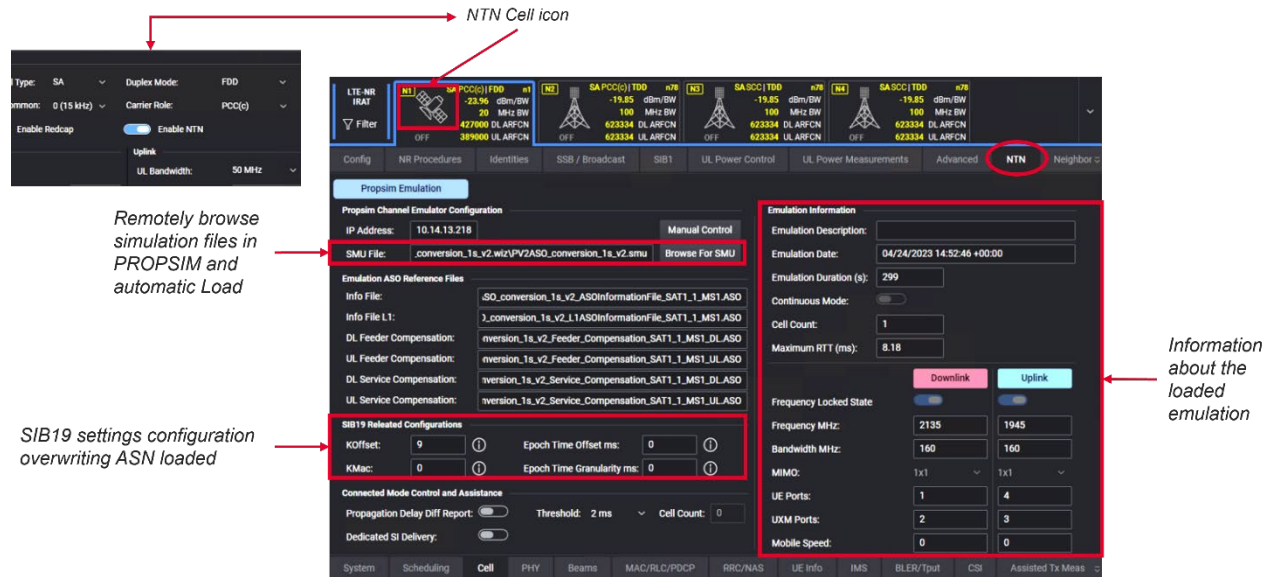

Figure 6. Example of end-to-end test configuration for NR-NTN
Just as with NB-IoT, delay, Doppler, and fading emulate the satellite links within the TA to characterize a 5G NR device under varying conditions. Analyze performance in new frequency bands and mobility scenarios as defined by 3GPP including terrestrial network (TN) to NTN handovers. Import real satellite orbit data and configure up to four NR-NTN cells for mobility testing. Emulate 5G NR TN and NTN end-to-end (Figure 6).